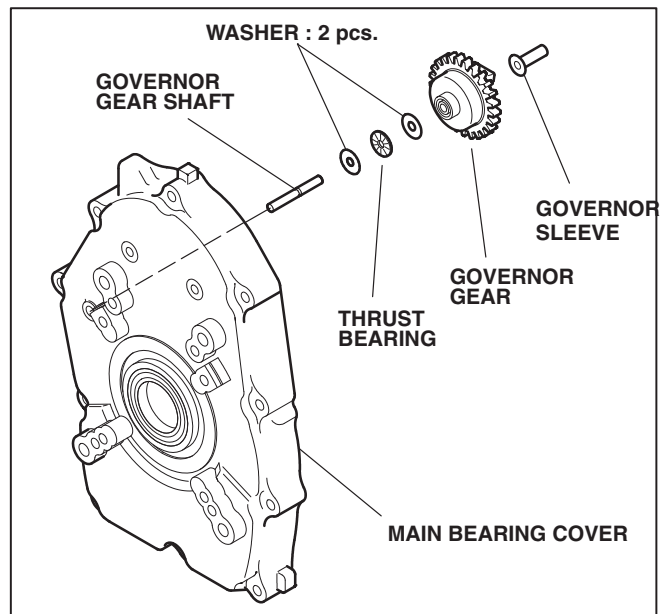

FIGURE 6-3.
2. Insert governor gear along with sleeve into governor gear shaft (Figure 6-3).